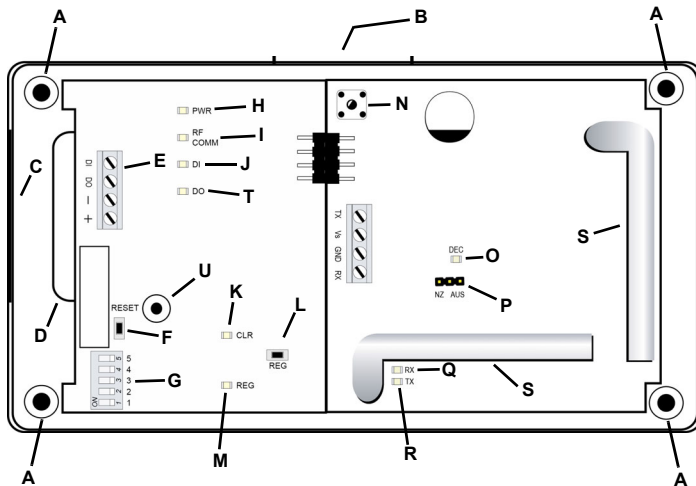
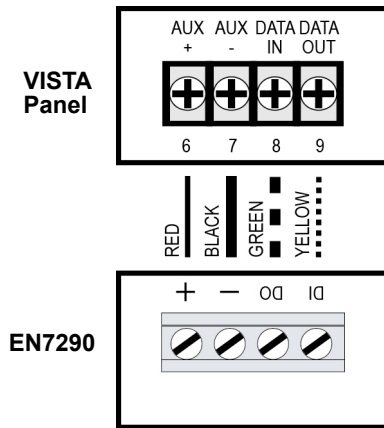
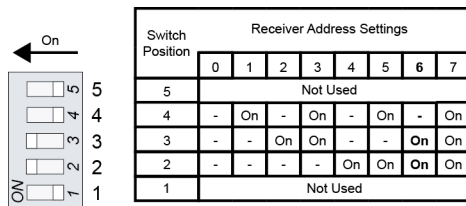

Figure 3 EN7290 receiver/interface internal components
Figure 4 EN7290 receiver/interface to VISTA panel cabling
Figure 5 Device address DIP switch settings (6 shown)
1. Use a small screwdriver to press the housing release tab; separate the housing (figure 3, B).
2. Place a selection jumper on the appropriate frequency band selection pins (figure 3, P).
1. Referring to Figure 4, connect one end of a length of cabling to the EN7290 receiver/interface positive (+) screw terminal (figure 3, E); connect the other end to screw terminal 6 on the VISTA control panel.
3. Connect one end of a length of cabling to the EN7290 receiver/interface data out (DO) screw terminal; connect the other end to screw terminal 8 on the VISTA control panel.
4. Connect one end of a length of cabling to the EN7290 receiver/interface data in (DI) screw terminal; connect the other end to screw terminal 9 on the VISTA control panel.
- Referencing Figure 5, set the device address DIP switches to an unused address (figure 3, G).
- Referring to Figure 4, connect one end of a length of cabling to the EN7290 receiver/interface positive (+) screw terminal (figure 3, E); connect the other end to screw terminal 5 on the Safewatch Pro 3000 control panel.
- Connect one end of a length of cabling to the EN7290 receiver/interface data out (DO) screw terminal; connect the other end to screw terminal 6 on the Safewatch Pro 3000 control panel.
- Connect one end of a length of cabling to the EN7290 receiver/interface data in (DI) screw terminal; connect the other end to screw terminal 7 on the Safewatch Pro 3000 control panel.
- Referencing Figure 7, set all device address DIP switches to the off position, indicating an address of 0, for the Safewatch Pro 3000 (figure 3, G).
1. Toggle the housing tamper switch to ensure the receiver/interface is ready to enter registration mode (figure 3, N).
2. Referring to Figure 3, "EN7290 receiver/interface internal components" on page 2, press the registration button (figure 3, L).
5. When all devices have been registered, press and release the housing tamper switch (or replace the housing). You can also press the reset button to exit registration mode (figure 3, F).